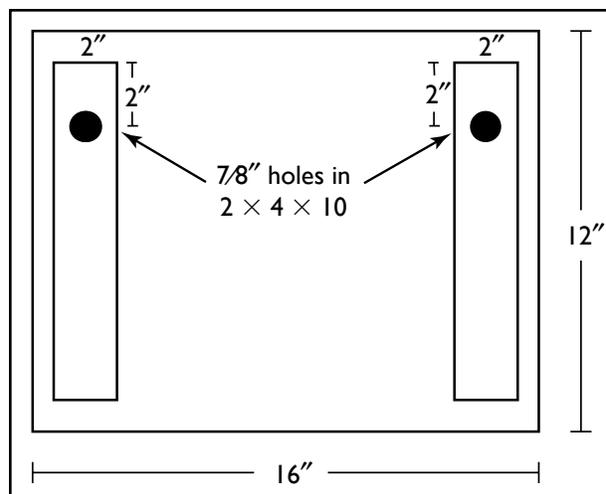

Figure 4: Wooden stand
- Place the wood blocks onto the large wood board as indicated in Figure 4 at right. Insert the legs of the PVC support into the holes in the blocks and adjust their position on the board accordingly. Epoxy the blocks to the board. When the epoxy is dry, remove the PVC support, turn over the wood assembly, and attach the blocks more firmly to the board with the nails.